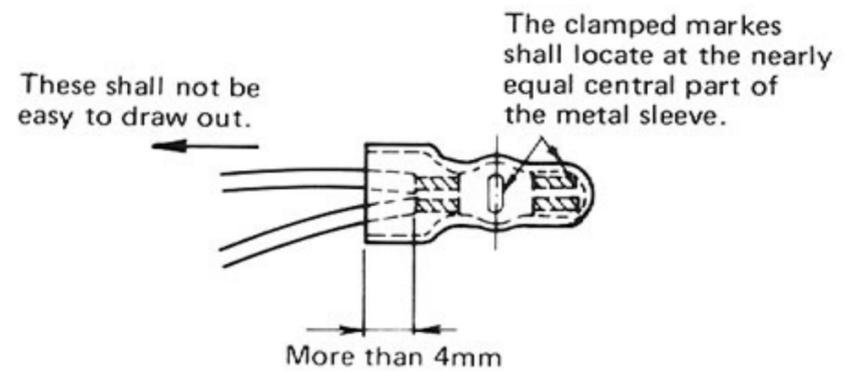

Fig. 44
5. After solderless securing, check the following as shown in the Fig. 44.